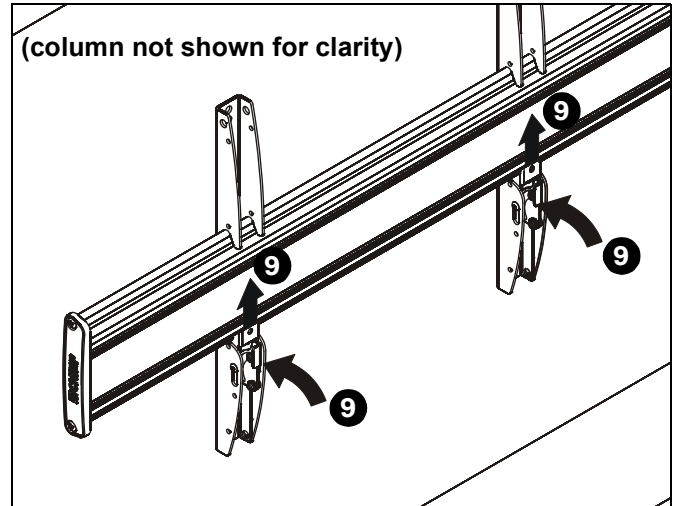

Figure 12
9. Move latches on interface uprights to the "closed" position to secure display to head assembly. (See Figure 12)